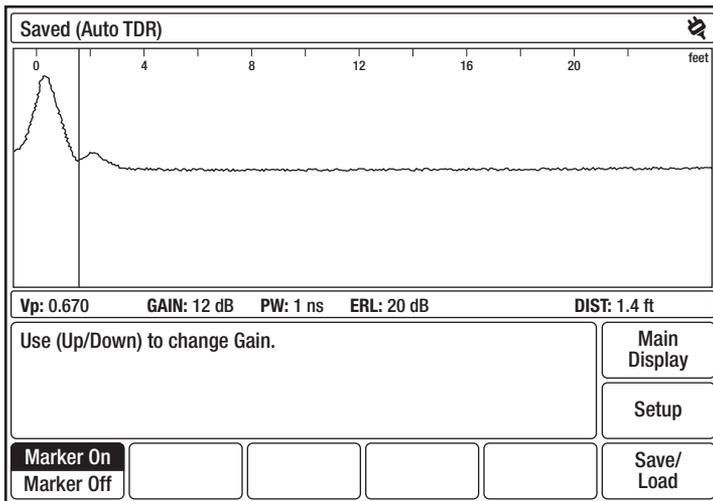

Figure 4-10: Saved (Auto TDR)
5. Press **Return to Test** to display the saved waveform (Figure 4-10).